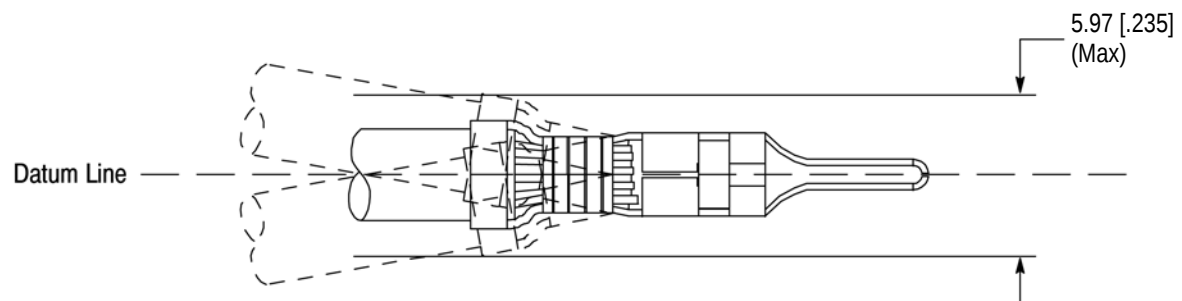

Figure 4
- 1) Up and Down -- The crimped portion, including cutoff tab and burr, must not be bent beyond the limits shown in Figure 4.
- 2) Side-to-Side -- The crimped portion must not be bent from one side to the other beyond the limits shown in Figure 4.